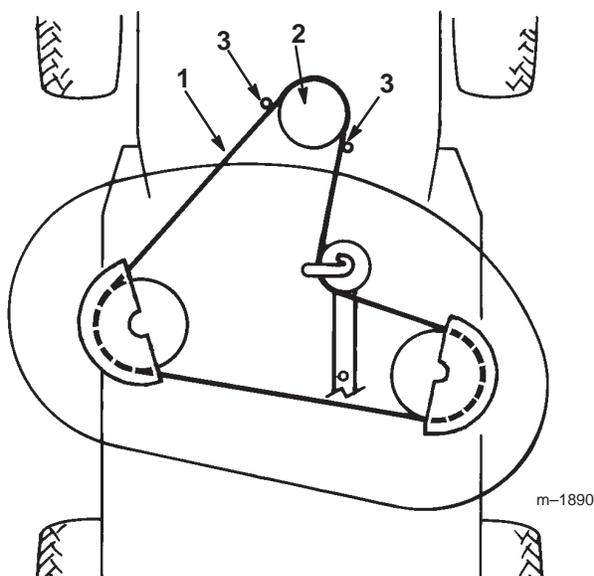

Figure 40
14. Remove the mower belt from the lower engine pulley (Fig. 40). If you are careful, you can flex the belt guide(s) just far enough away from the pulley to remove the belt. If it is too difficult to remove the belt, loosen the bolts and nuts securing the belt guides.
- Install mower belt onto the lower engine pulley (Fig. 40). If you are careful, you can flex the belt guide(s) just far enough away from the pulley to install the belt. If it is too difficult to install the belt, loosen the bolts and nuts securing the belt guides.